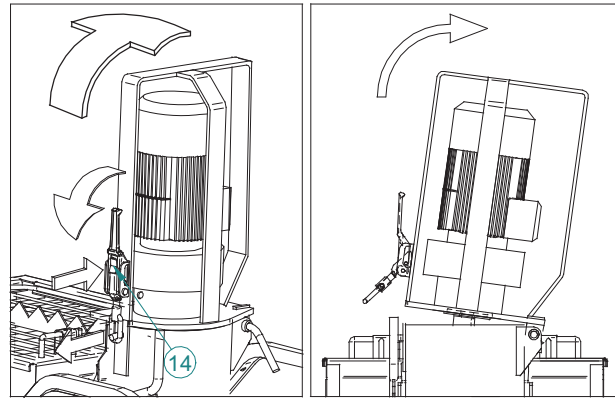

FIG.15
Detach the quick connector with safety device (ref.14) and open the mixing chamber (fig.15).